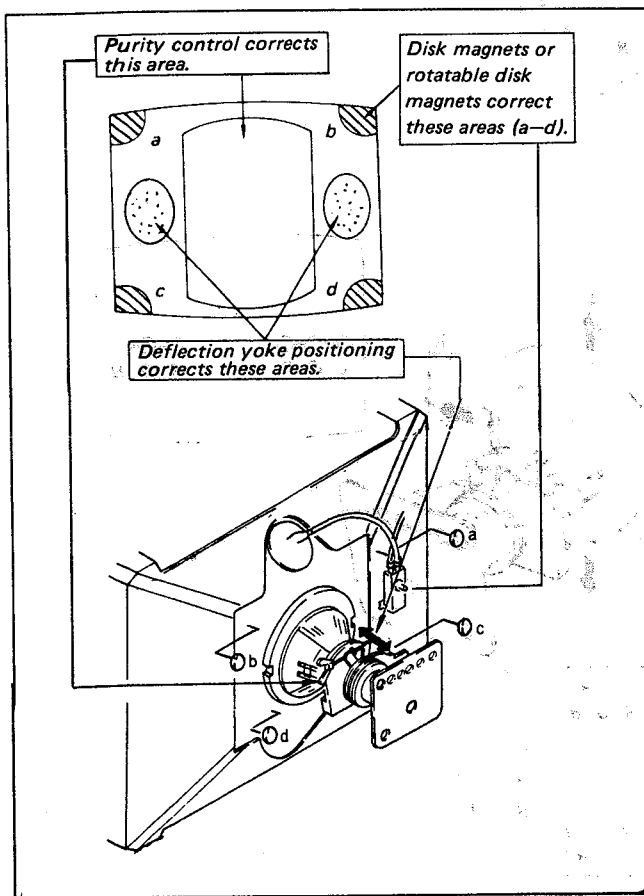

Fig. 4
10. Check if mislanding appears at corners a-d as shown in Fig. 4. If mislanding is observed, correct it as shown in Fig. 4.